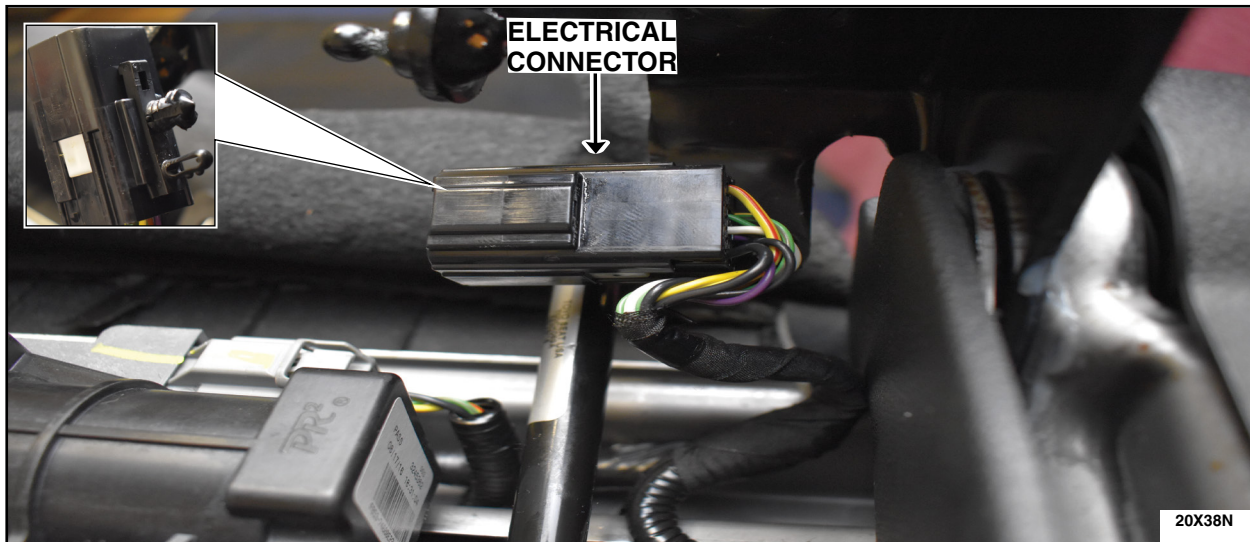

FIGURE 4
5. Disconnect the electrical connector push pins from the seat frame. See Figure 4.
15. Reconnect the electrical connector to the seat frame. See Figure 4.